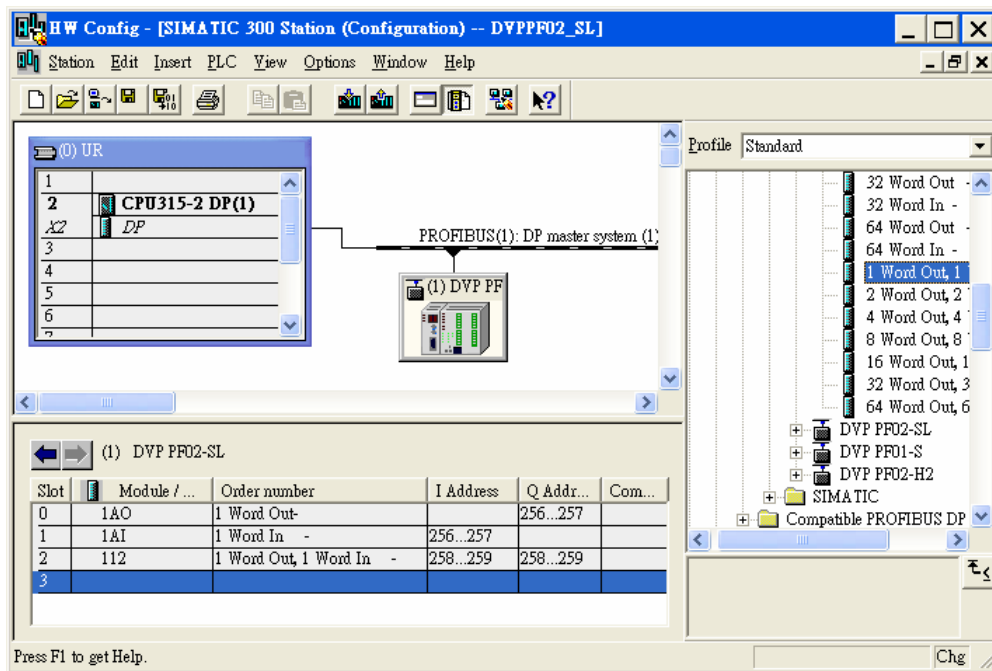
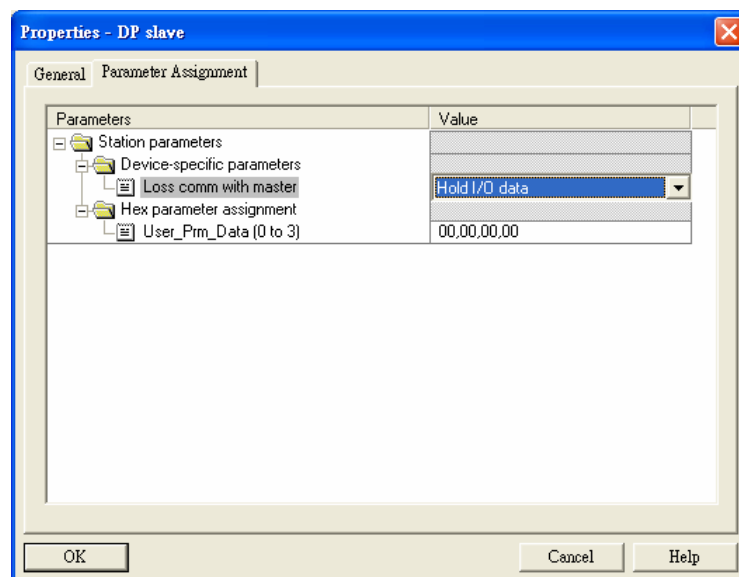

Figure 10-25
Figure 10-26
6. Configure other slots as the way Slot 0 is configured, as Figure 10-25. Finish configuring Slot 0 to Slot 2.
- After DVPPF02-SL is configured, double click the slave DVPPF02-SL on the PROFIBUS DP bus in Figure 10-25, and a dialog box will appear, as Figure 10-26. See 8.1 for definitions of the parameters in the dialog box.